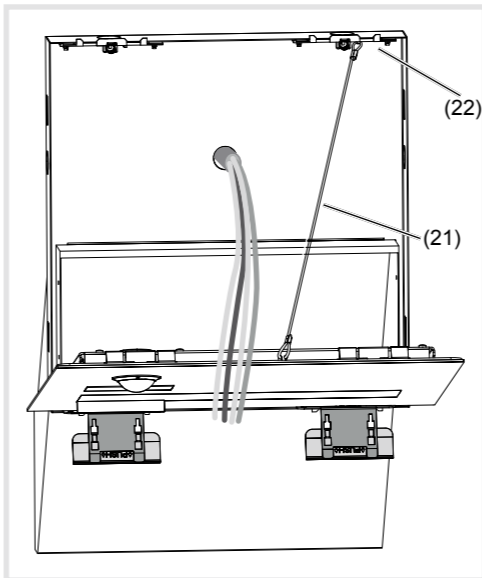

Figure 7: Installation position of audio letter box front
- (19) Opening tools
- (20) Lower fastening elements
- Attach the loops of the safety rope (21) between the centre upper suspension of the letter box front and right upper fastening element (22) in the housing. Position the audio letter box front to install on the opening tools (Figure 7).